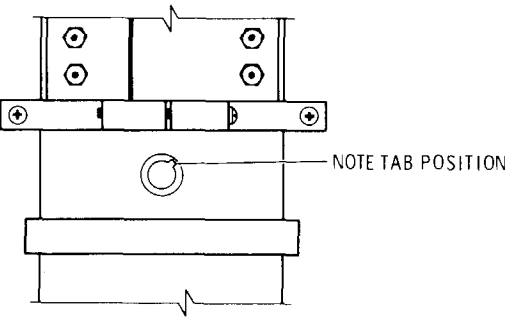

Figure 8-83. RF Oscillator Transistor Orientation
- 4. Re-insert transistor as shown in Figure 8-83. Replace transistor cap (31) including the two RF I plugs (33 and 34).
- 5. Connect power meter sensor (HP 435A/8482A) to the Divider/Filter Buffer Amplifier output, A3A1J1 (41). Measure output power while tuning oscillator across band - it should always be within +0.5 to +4.5 dBm. If not, perform adjustment in paragraph 5-38.
- 6. Connect power meter sensor to the Counter Buffer Amplifier Output, A3A1J2 (37). Measure output power while tuning oscillator across band - it should always be within -12 to -2 dBm. If not, perform adjustment in paragraph 5-38.